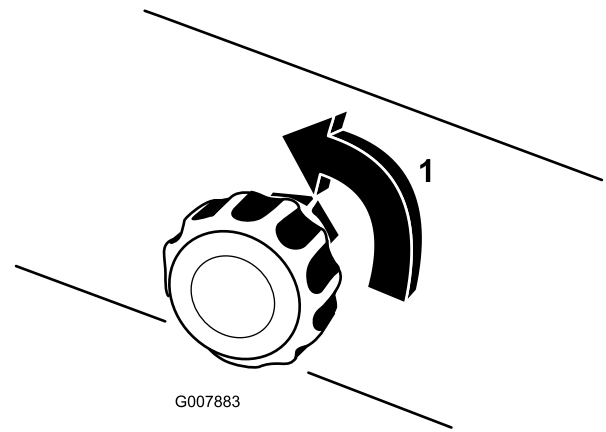

Figure 33
5. For the initial operation, open the foam density adjustment valve 1/8 to 1/4 turn (Figure 33).